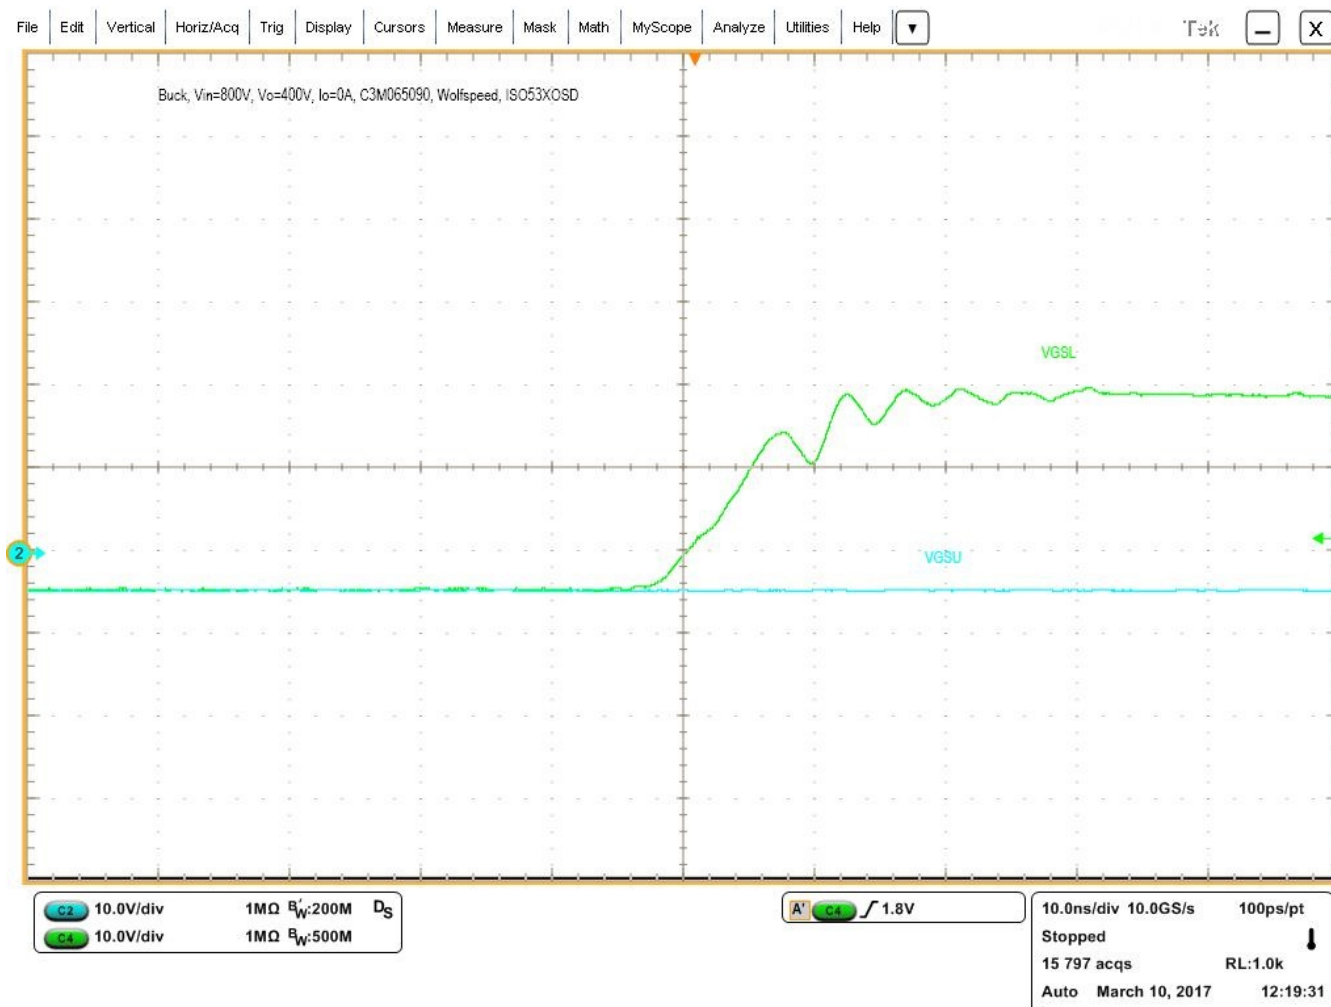

Figure 7. Expanded Gate-Source Drive Voltage Rise Time
1. Expand the horizontal scale of oscilloscope from 2 $\mu\text{s}/\text{div}$ to 10 ns/div, and verify rise and fall time of the driver board indicating high output current capability of UCC5390SCD driver ICs (Figure 7 and Figure 8).